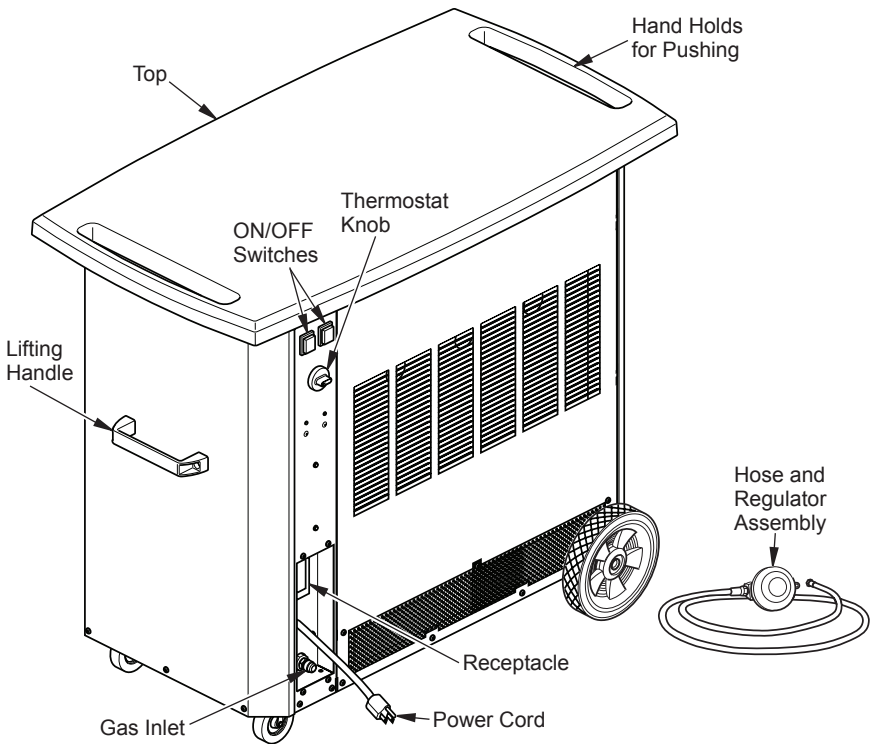

Figure 1 - Tent Heater
30. Only use lifting handles to pick up appliance (see Figure 1, page 6). Do not use plastic top hand holds for lifting.